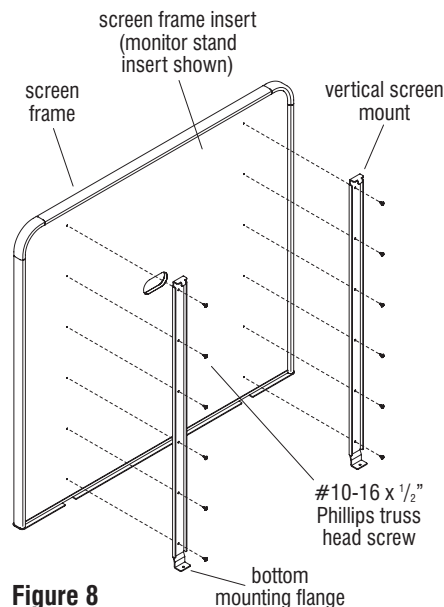

Figure 8
1. Position a vertical screen mount with the bottom mounting flange oriented toward the bottom of the screen frame. Align the mounting holes on the vertical screen mount with the mounting holes on the back of the screen frame insert and secure together using six #10-16 x 1/2" Phillips truss head screws. Repeat this step to secure the second vertical screen mount to the screen frame insert (Figure 8 & Detail H).